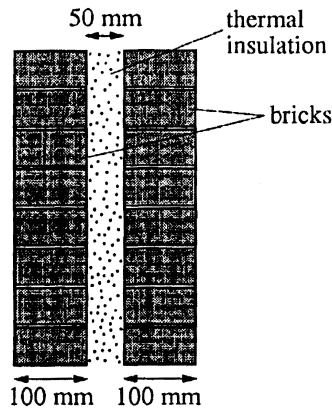
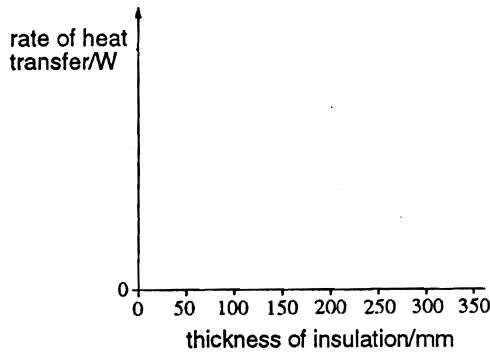

Fig. 40
Fig. 41
- (e) A composite wall is constructed from two 100 mm brick walls separated from one another by 50 mm of thermal insulation, as shown in Fig. 40.
- (i) U_c for the composite wall shown in Fig. 40,
- (f) On Fig. 41, sketch a graph to show how the rate of heat transfer through a wall, such as that shown in Fig. 40, varies with the thickness of the insulation. Label the vertical axis with suitable values. [4]